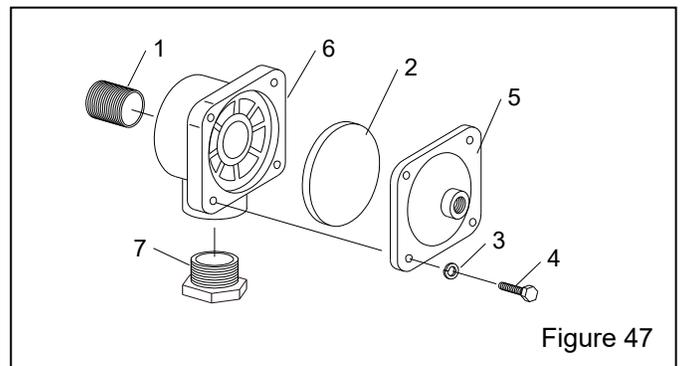

Figure 47
**9.6 1" Diaphragm Outlet Valve – Figure 47**